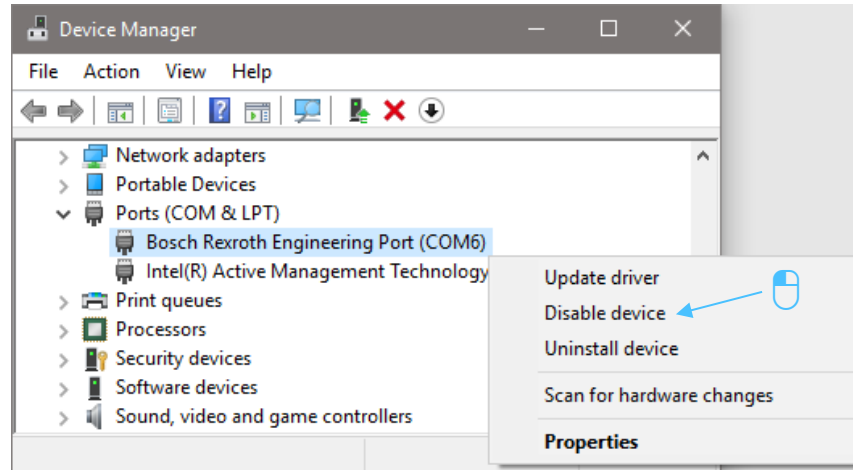

Abb. 3: USB port in device manager
- If "xFC" does not appear as an interface, disconnect the USB cable from the computer and reconnect it. Alternatively, you can deactivate the interface in the Windows device manager as shown in Abb. 3: USB port in device manager and then turn it back on.